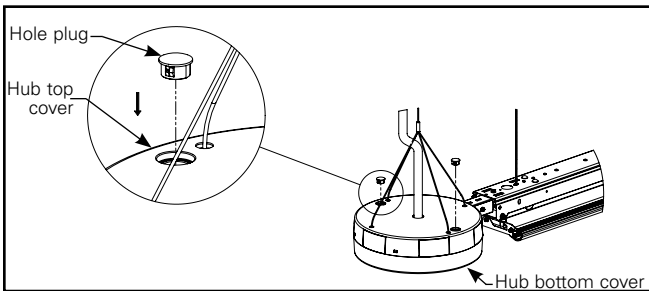

Figure 11.4
- D. Install hole plugs to close the holes at two places (Figure 11.4).